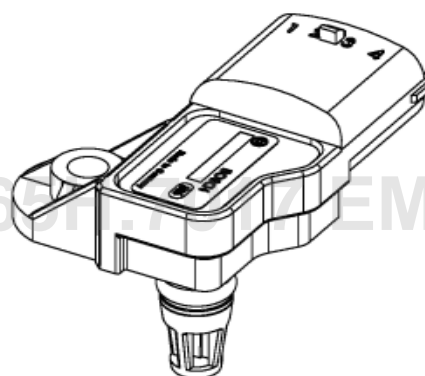

Fig. 7
**Engine Boost Pressure Sensor** : Engine Boost Pressure sensor is mounted on the intake manifold to measure the absolute intake manifold pressure. **Fig. 7**